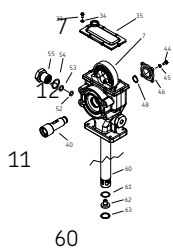

Fig. 9
- 1 Remove pivot screws (11) from the crankrod (7). Refer to fig. 9.